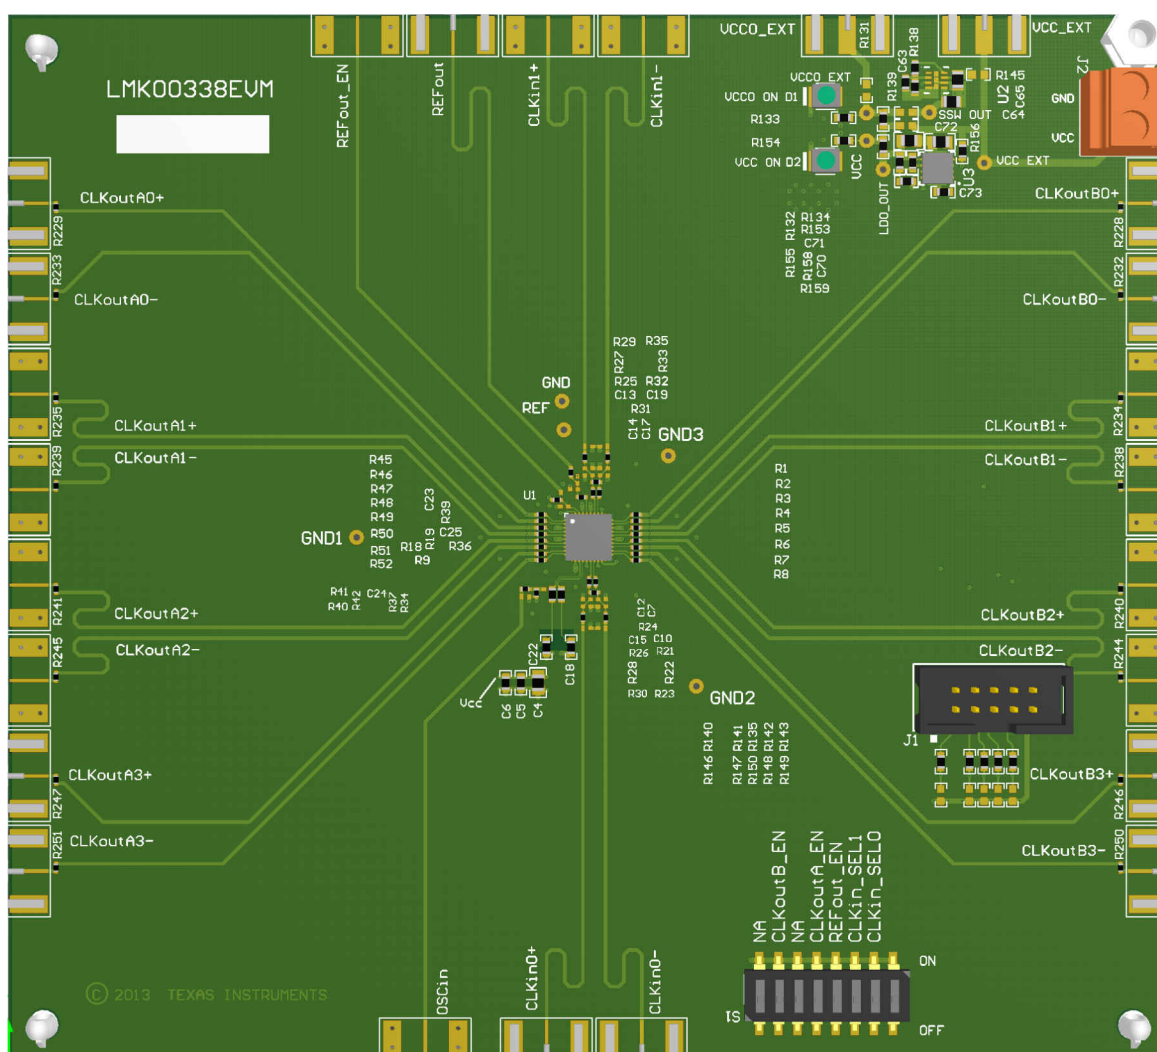

图 11-1. LMK00334 Layout Example
- For DC-coupled operation of an HCSL driver, terminate with $50\ \Omega$ to ground near the driver output as shown in 图 11-1.